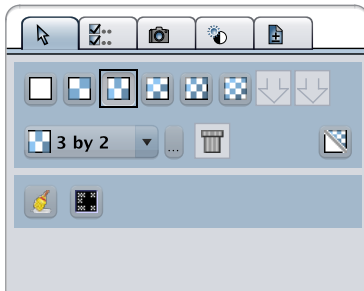

Figure 1.112: Viewport Layout Tool
- The Viewport Layout tool opens, see [Figure 1.112 \[p. 138\]](#).